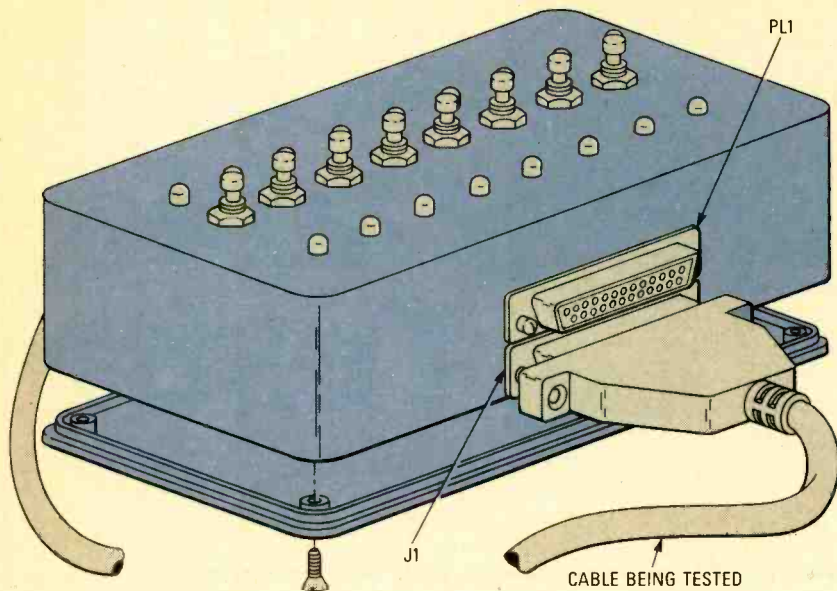

Fig. 2. By enclosing the Cable Tester in an inverted case, you will be able to easily remove the cover without having to deal with connecting wires.
Fig. 2. There are no printed-circuit or perfboards involved with the construction; R1, R2, and Q1 are hard wired together and placed at the tip end of the tester, with the batteries and lamp positioned on top of the hard-wired components.
Figure 2 shows an assembly diagram for the Cordless DC Test Light. The transistor and two-resistor portion of the circuit should be assembled first. Start by twisting the gate lead of Q1 and one lead of both R1 and R2 together. Then do the same for the source lead of Q1 and the other lead of R2. Those two leads are then connected to a spring—like those used in retractable, ballpoint pens—which will go to the negative end of the series connected batteries.
Next insert the probe-tip assembly into the casing material (as shown in Fig. 2), making sure that the drain lead of Q1 is wedged between the holder and metal casing, and secure in place with glue or tape. Insert two "AA" or "AAA" batteries—use whichever type fits best. The batteries should fit into the casing so that there is not so much room that they "dance" around when the unit is moved, but not so tight that replacing the batteries becomes a major chore.
To determine the pinout of the "mystery" cable, all you need do is connect the cable as shown in Fig. 2—both ends of the cable connect to the circuit. Then, by just activating the pushbutton switches one at a time, you can determine how the cable is wired and if there are faults. For example, if you were to press switch S3 (which is connected to pin 4 on the left) and LED3 and LED4 (pins 4 and 5 on the right) and LED11 and LED16 (pins 4 and 20 on the left) were to light, you would know that all four pins were connected.
**Construction.** Before you decide on a method of wiring the RS-232 Cable Tester, you should first decide what type of enclosure you'll be using to house the project. My prototype unit was housed in an inverted plastic enclosure (see Fig. 2), measuring about 6 by 2 x 3 inches. The switches, LEDs, and protoboard-mounted resistors were mounted to the inverted bottom of the enclosure. By mounting those components in that manner, I was able to install the four DB-25 connectors on the two larger sides. A pinout diagram for both male and female DB-25 connectors is shown in Fig. 3.